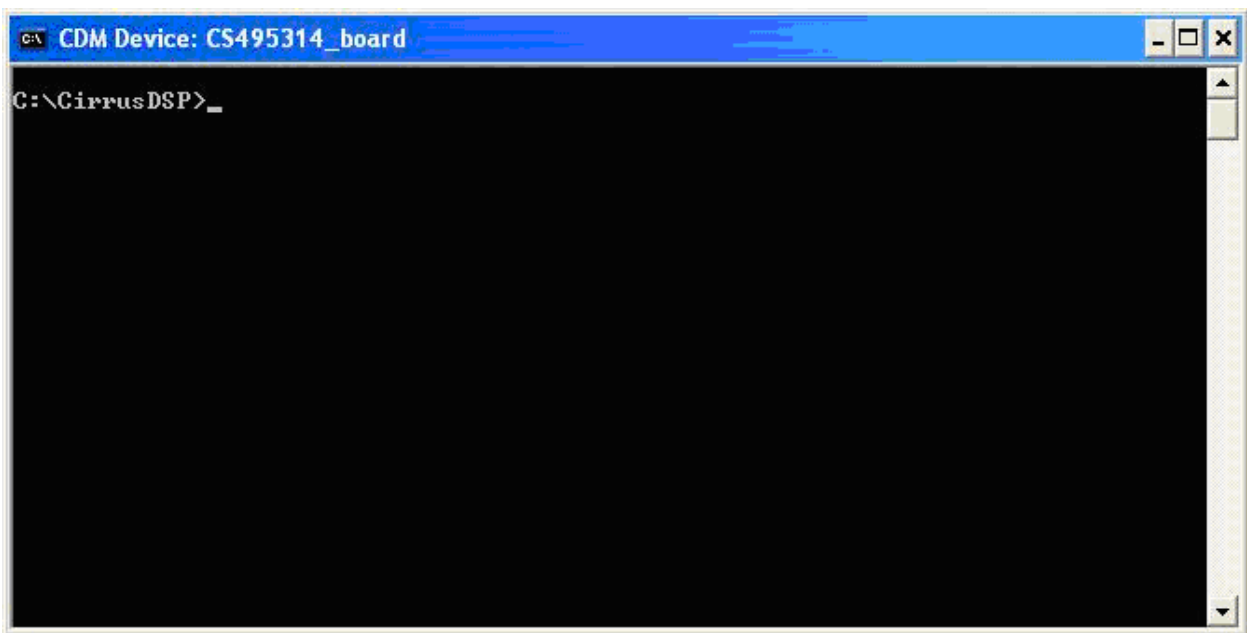

Figure 3-5. CDM Device Console Window
3. Figure 3-5 shows the CDM Console window, which is now available for the user to enter commands.